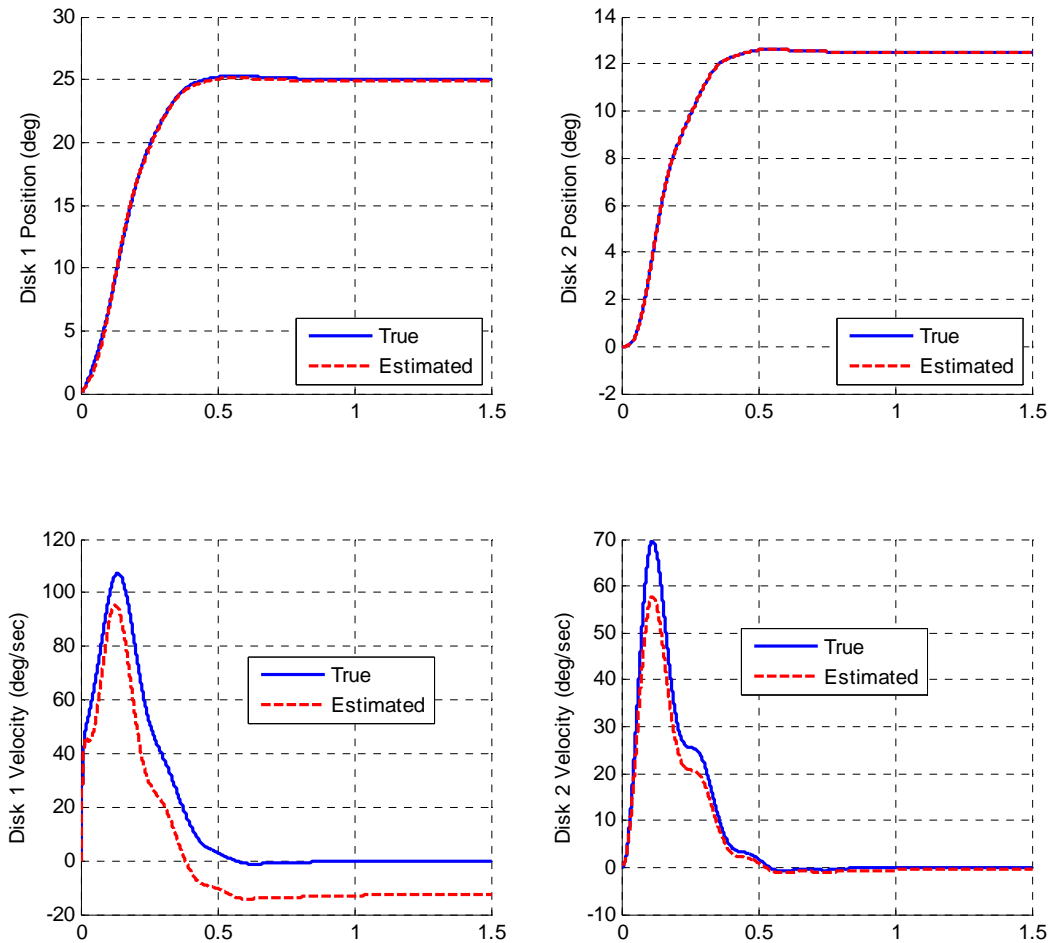

Figure 14. Full order observer for a 2 dof system with a bad model (problem 4d).
d) Now we will try and observe what happens when there is a difference between our model and the real system. Modify the observer system in the model (.mdl) file, so the A matrix is called AA. Just before you run the model file, enter the command $AA = A*1.2$. Place the state feedback poles at twice their original values (at $2*p$), and change the observer poles to be five times their original values ($10*p$). You should get results like those in Figure 14. Note that if we do not change the pole locations, we will get an unstable system (just try it!)